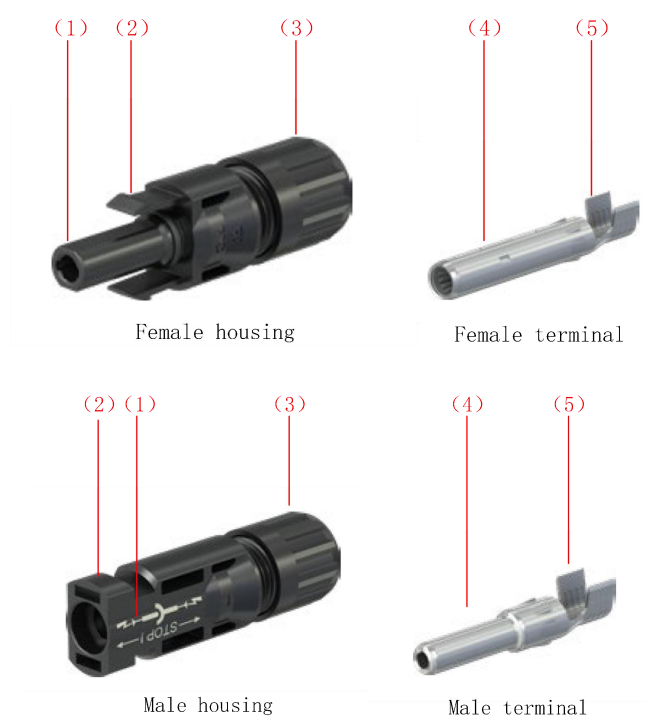

Figure 3-6 MC4 terminal connector
Step 3 : Take out the MC4 PV terminals (one male and one female) in the accessories, and the round metal crimp terminals for cable connection, the terminals are shown in Figure 3-6. Cable with across-sectional area of 4mm2(11AWG) - 6mm2(10AWG) is recommended.